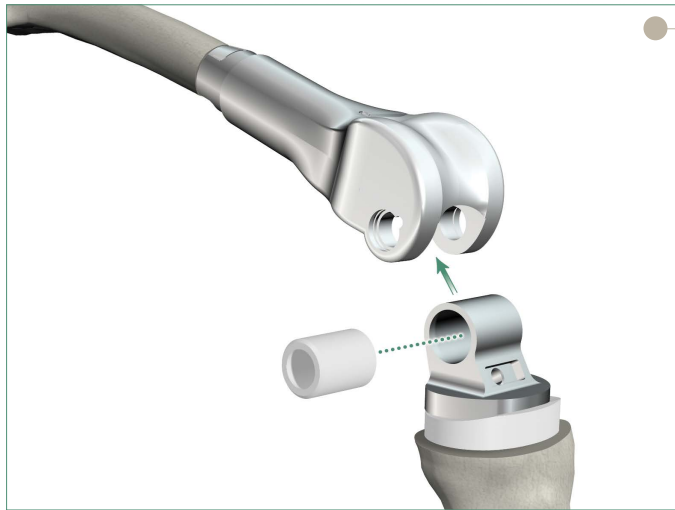

Figure 29
- ▶ Place the polyethylene bearing through the proximal hole of the Tibial Bearing Component. Then, insert the bearing in between the condyles of the housing of the Distal Femoral Growing Prosthesis, and then insert the metal Axis through the construct (**Figure 29**).